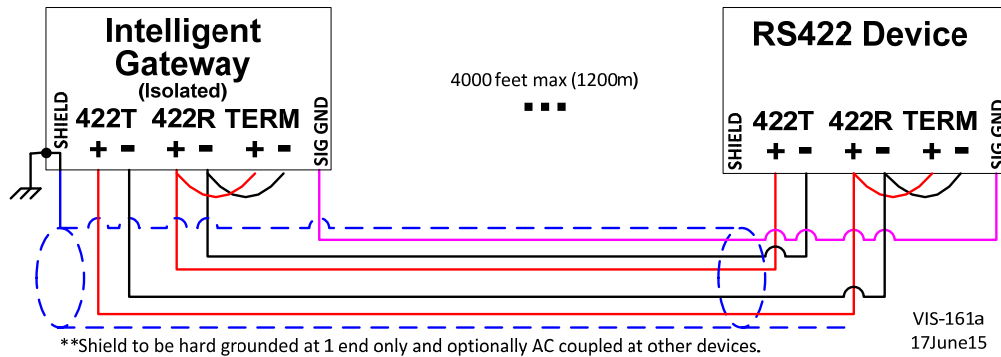

Figure 3-25. Wiring Example—RS-422 Interface to the SmartCore CPU A5200 Board
- **RS-422.** Refer to Figure 3-25 for an RS-422 wiring example. The transmit data pairs (422T+ and 422T-), receive data pairs (422R+ and 422R-), and signal ground (SIG GND) must be properly connected as shown. In addition, the shield (SHLD) should be connected in at least one location. Only the receiver at each end of the network should be terminated with a resistor.